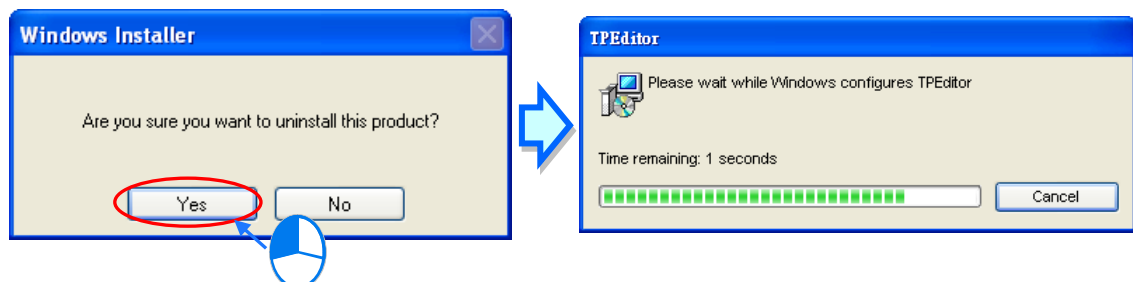

Figure 1-9 Process of uninstalling TPEditor
(2) After users click **Yes**, TPEditor will be removed, as shown in Figure 1-9.